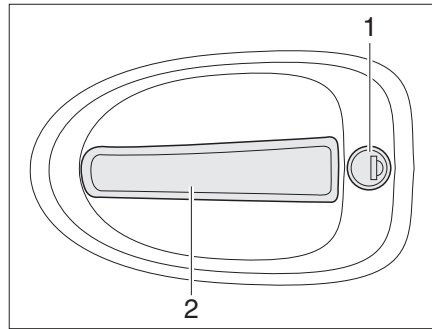

Fig. 43 Door lock of driver's door, outside
- Insert the key into locking cylinder (Fig. 43,1) and turn until the door lock is unlatched.
- Pull on the handle (Fig. 43,2). The door is open.
- Insert the key into locking cylinder (Fig. 43,1) and turn until the door lock is engaged.